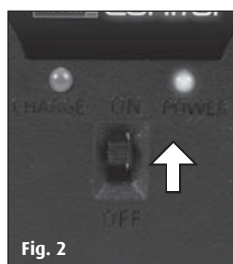

Fig. 2
3. Switch on the remote control unit; the Power LED will light up red (Fig. 2).